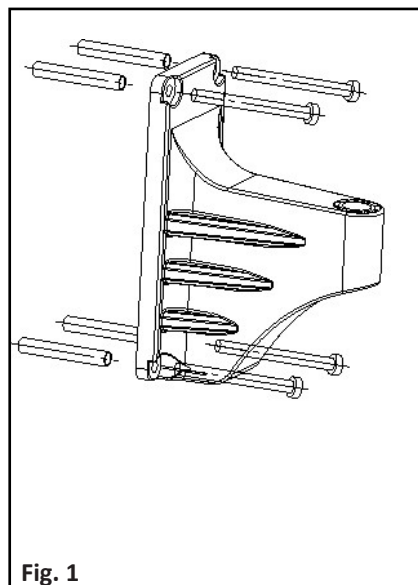

Fig. 1
4. Fix the bracket by four self-tapping screws accordingly (Fig.1).
4. Fissare la staffa con quattro viti autofilettanti (Fig. 1).